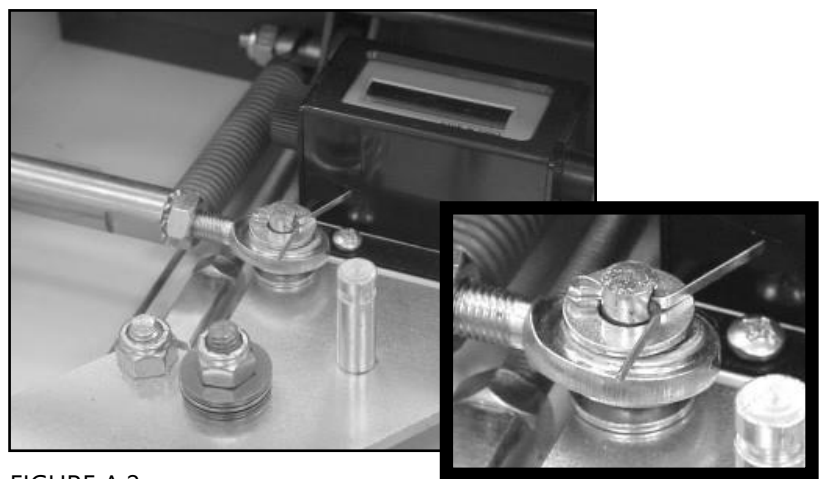

FIGURE A.2
- A-2.** Remove the Cotter Pin and Washers that secure the Lock Bolt Rod to the top post on the Pivot Plate (See Figure A.2).